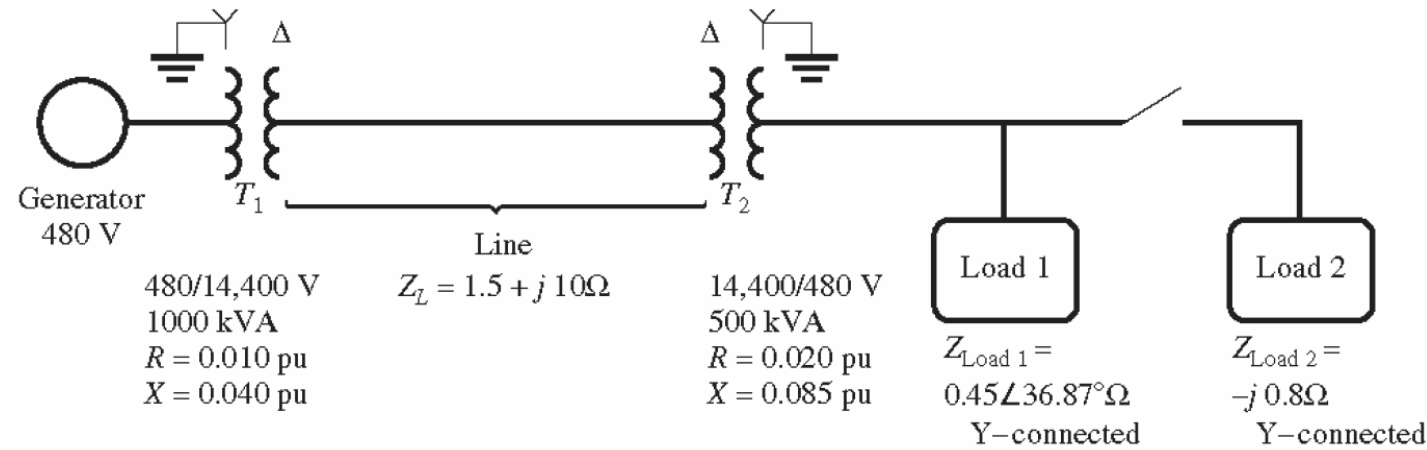

FIGURE P2-4
- 2-24.** Figure P2-4 shows a one-line diagram of a power system consisting of a three-phase 480-V 60-Hz generator supplying two loads through a transmission line with a pair of transformers at either end (NOTE: One-line diagrams are described in Appendix A, the discussion of three-phase power circuits.)